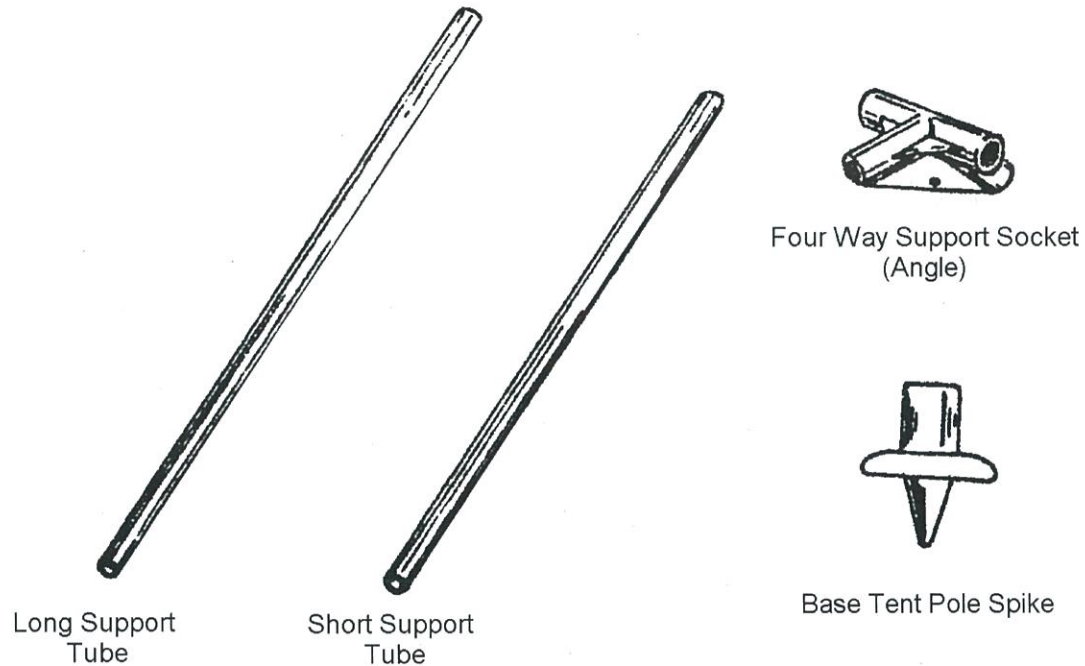

Figure 5-3 — Framework Components
9. The framework components used in the construction are detailed in Fig 5-3. The function of each component is described in the following paragraphs. Abbreviated nomenclature is used to facilitate the description of the erection drill, which is detailed in the paragraphs below. The full nomenclatures together with the quantities of each item are detailed in Table 5-3.